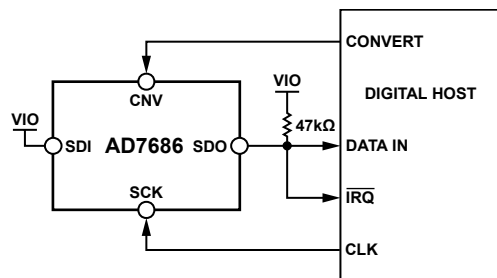
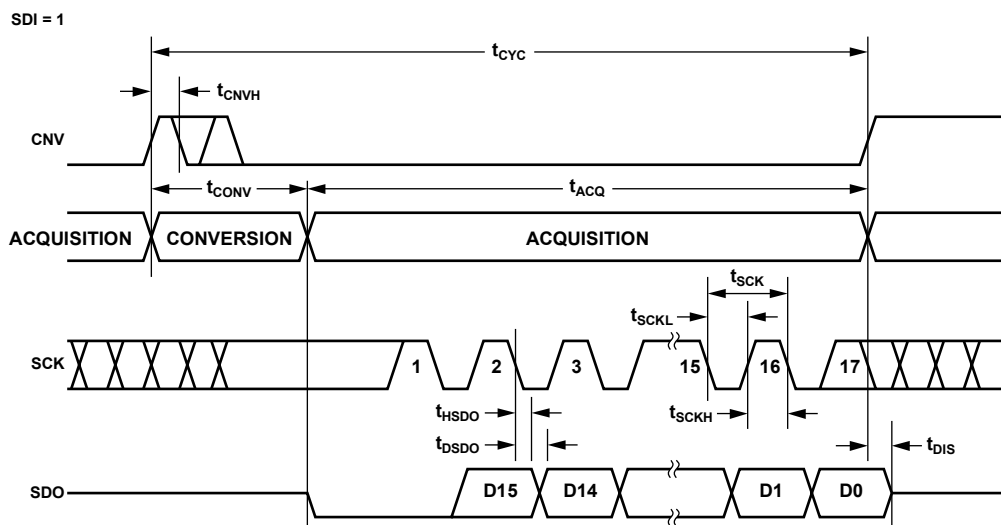
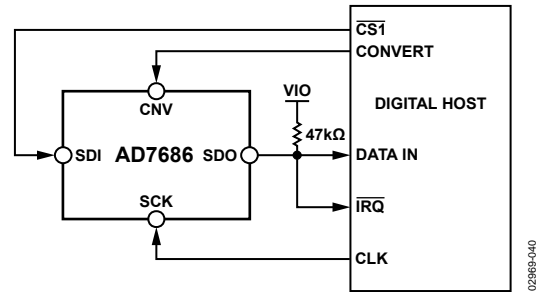
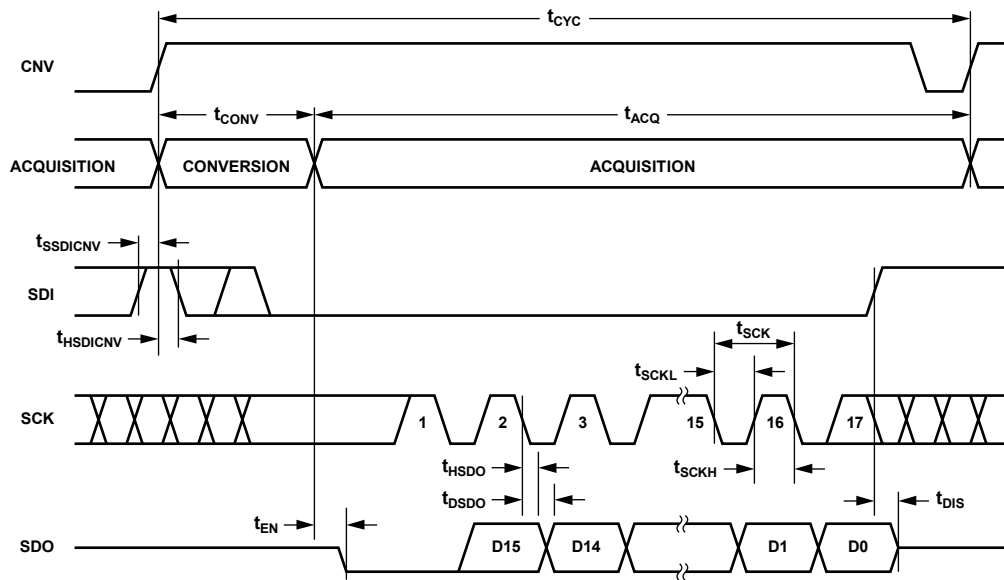

Figure 35. $\overline{\text{CS}}$ Mode 3-Wire with Busy Indicator Connection Diagram (SDI High)
Figure 36. $\overline{\text{CS}}$ Mode 3-Wire with Busy Indicator Serial Interface Timing (SDI High)
Figure 39. CS Mode 4-Wire with Busy Indicator Connection Diagram
Figure 40. CS Mode 4-Wire with Busy Indicator Serial Interface Timing
- In \overline{CS} mode, if CNV or SDI is low when the ADC conversion ends (see Figure 36 and Figure 40).
This mode is generally used when a single AD7686 is connected to an SPI-compatible digital host having an interrupt input. The connection diagram is shown in Figure 35, and the corresponding timing is provided in Figure 36.
This mode is usually used when a single AD7686 is connected to an SPI-compatible digital host, which has an interrupt input, and when it is desired to keep CNV, which is used to sample the analog input, independent of the signal used to select the data reading. This requirement is particularly important in applications where low jitter on CNV is desired. The connection diagram is shown in Figure 39, and the corresponding timing is provided in Figure 40.